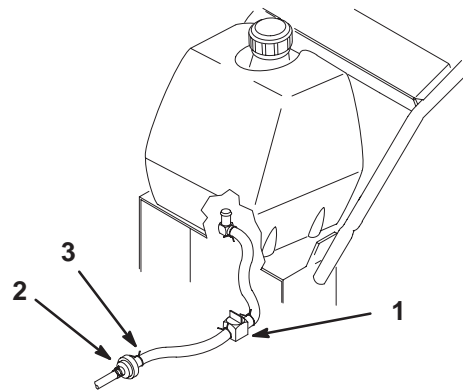

Figure 42
2. Close the fuel shut-off valve in fuel line (Fig. 42).
3. Squeeze the ends of the hose clamp together and slide it up the fuel line away from fuel filter (Fig. 42).
4. Pull the fuel line off the fuel filter (Fig. 42). Open fuel shut-off valve and allow gasoline to drain into a gas can or drain pan.
3. Close fuel shut-off valve (Fig. 42).
7. Open the fuel shut-off valve at the fuel tank (Fig. 42).